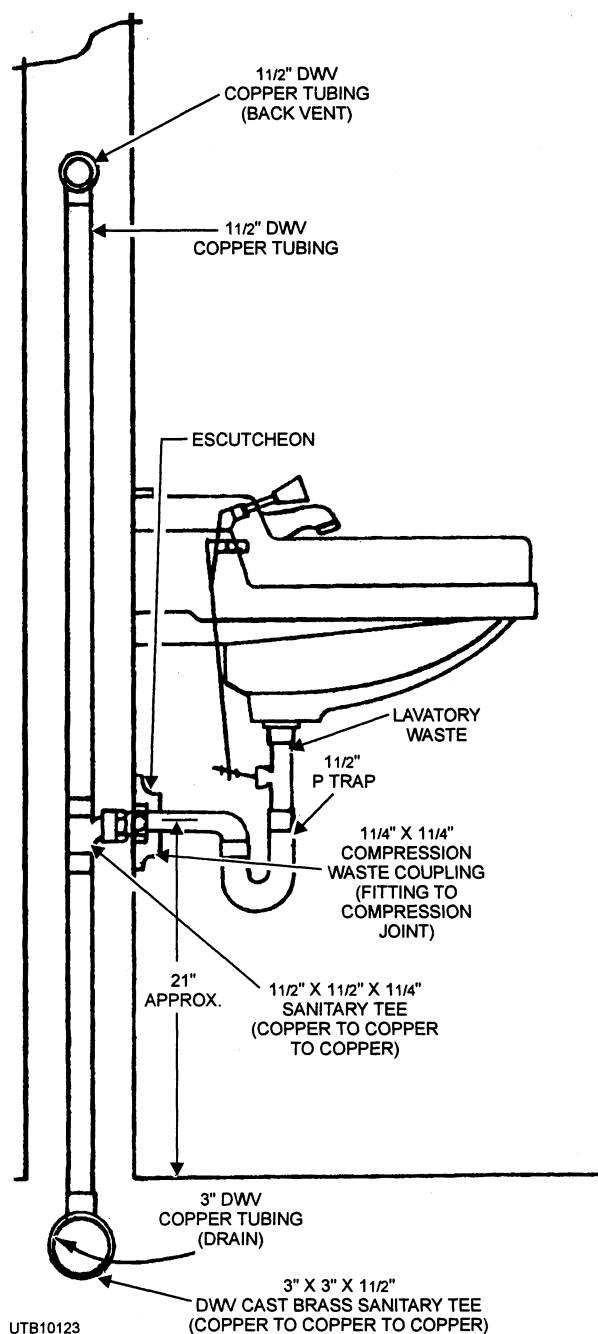

Figure 5-21.—Lavatory waste hookup.
6. Connect the waste-supply lines, as shown in figure 5-21, to the lavatory.